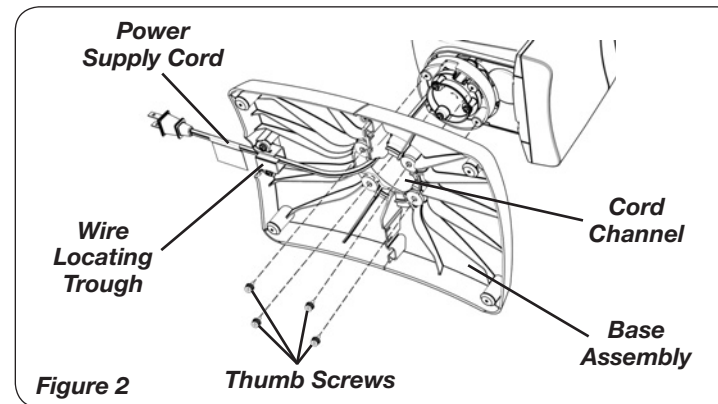

Figure 2
3. Pass the *Power Supply Cord* through the *Cord Channel* in the center of the Base (Figure 2).
4. Align the Support Base holes with the threaded inserts on the bottom of the Heater. Secure the (4) *Thumb Screws* into the four holes in the bottom of the base (Figure 2). Use hand or Philips screwdriver to tighten.
5. Route the *Power Supply Cord* out the rear of the Support Base as depicted. (Figure 2)